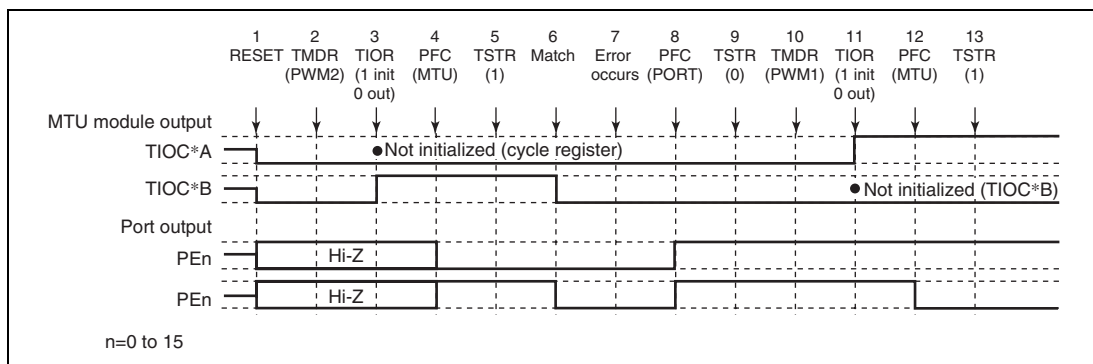

**Figure 11.98 Error Occurrence in PWM Mode 2, Recovery in PWM Mode 1**
**Operation when Error Occurs during PWM Mode 2 Operation, and Operation is Restarted in PWM Mode 1:** Figure 11.98 shows an explanatory diagram of the case where an error occurs in PWM mode 2 and operation is restarted in PWM mode 1 after re-setting.